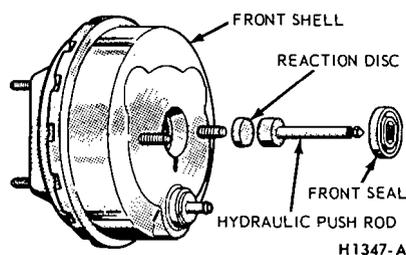

FIG. 42—Installing Reaction Disc, Push Rod and Front Seal—Bendix Booster
12. Center the reaction disc on the push rod piston. Guide the disc and push rod into the base of the diaphragm plate, and press the rod inward until the disc is bottomed (Fig. 42).
13. Press a new front seal into the front shell until it bottoms in the recess (Fig. 42).